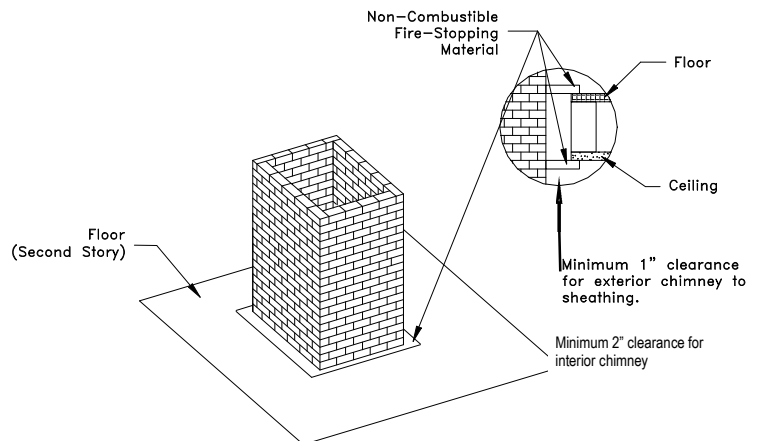

Fig.10 Fire Stopping
3. A chimney inside the house must have at least 2 inches of clearance to the combustible structure. A chimney outside the house must have at least one-inch clearance to the combustible structure. Fire stops must be installed at the spaces where the chimney passes through floors and/or ceiling (Fig. 10).